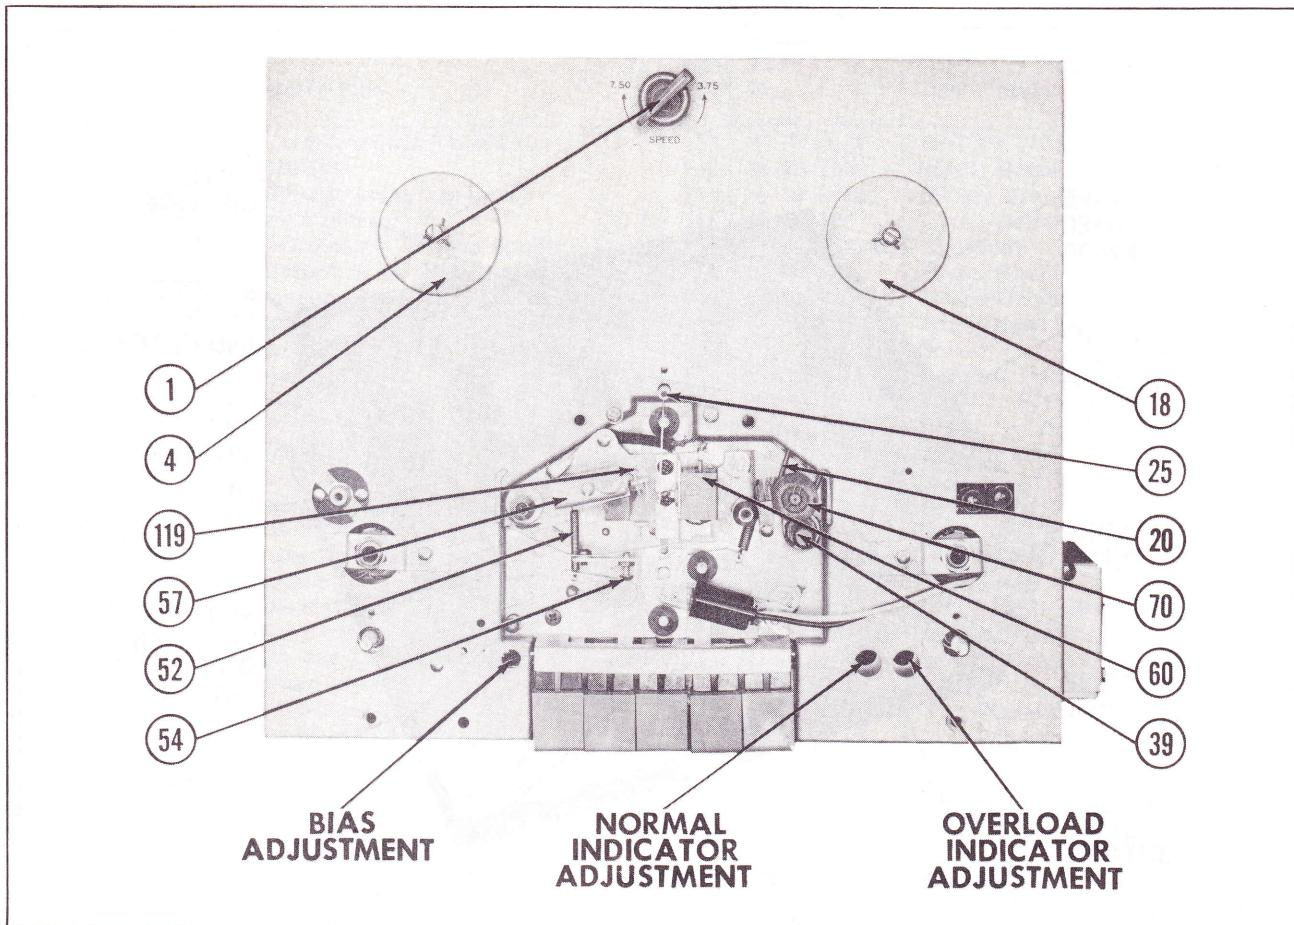

Figure 2
2. With the escutcheons removed check the erase head (57) to see if it is parallel with the tape.
3. Check to see if the top edge of the tape coincides with the top end of the diagonal slot in the erase head (junction of long diagonal slot and short vertical slot). To adjust level of tape, loosen set screw (47), see exploded view, and rotate tape guide post (48) to move tape up or down. Tighten set screw (47).
4. After this adjustment has been made, check to see if the tape moves forward approximately $1/64"$ when the "Record" button is depressed. If not, loosen the forward adjustment screw (119), see Figure 2, and turn the screw in or out as required to obtain this $1/64"$ movement. Tighten the lock nut.